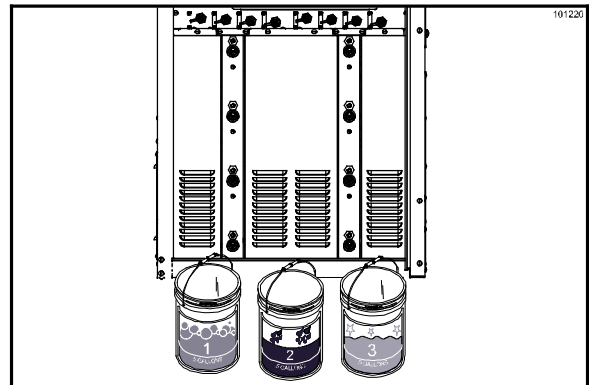

Figure 86
34. Place the three pails on the floor in front of the machine. The pail marked "1", containing the cleaning solution, will be used first. (See Figure 86.)